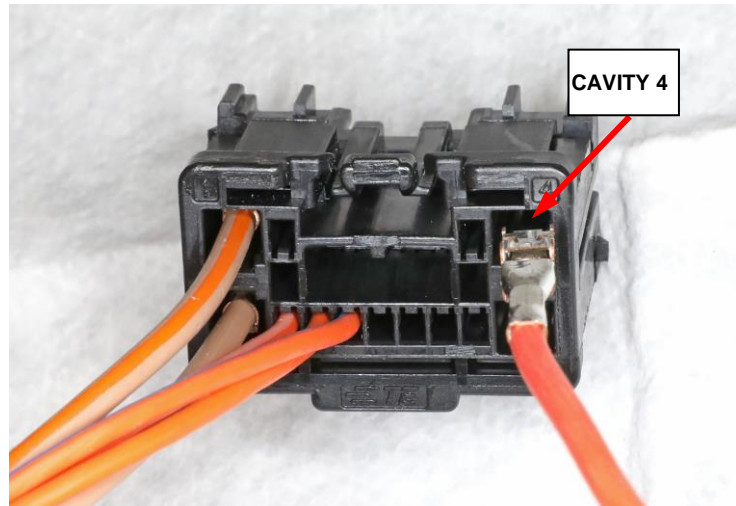

Figure 18 – 13-Pin Connector Cavity 4
- j. Insert the new ground wire terminal into cavity 4 of the 13-pin PLGM harness connector (Figure 18).